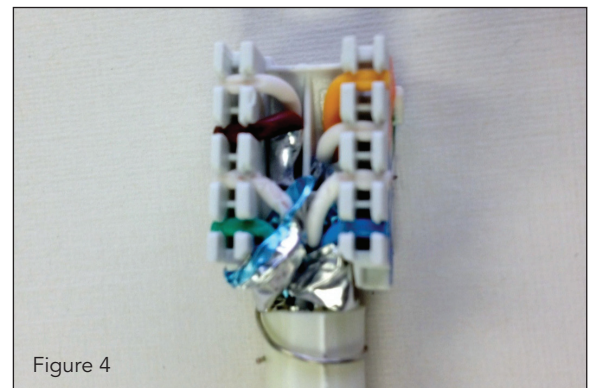

Figure 4
- 4.4 Insert conductors into slots and trim excess wires using diagonal cutters with flush cutting edge. See Figure 4.